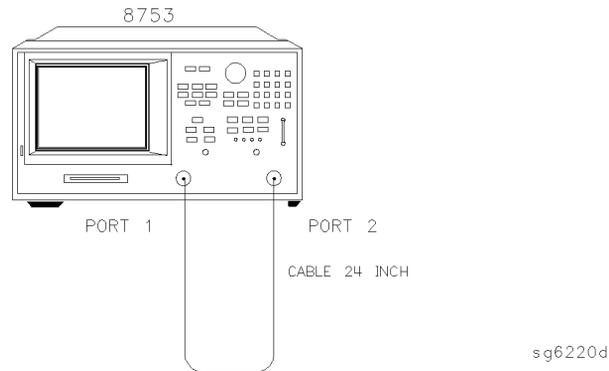

Figure 4-17. Test Port 2 Input Frequency Response Test Setup
- 47** When the analyzer displays the message, POWER METER CALIBRATION SWEEP DONE, connect the equipment as shown as in Figure 4-17.